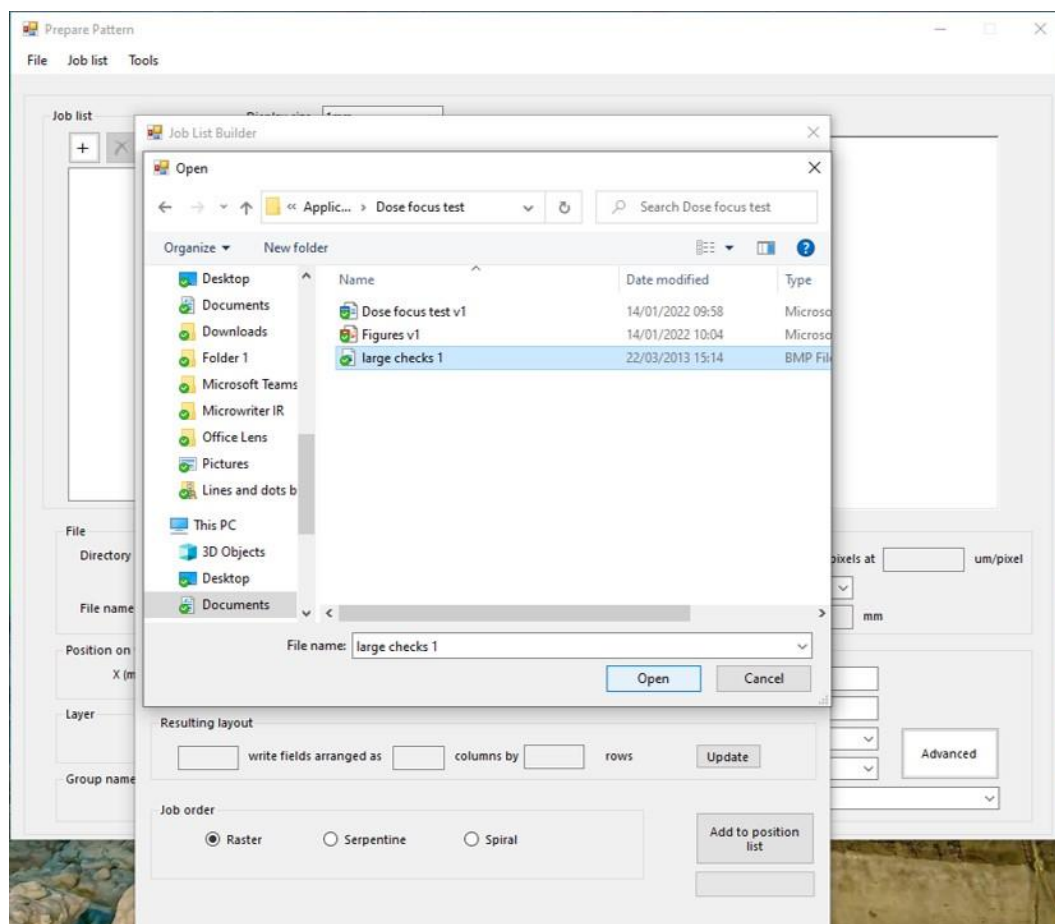

Figure 3 Select the input designed pattern file for the job list builder.
- d. Find the folder location of the pattern file in the “Open” window, and then click Open (Figure 3). Here we will be using the “large checks 1.bmp” file.